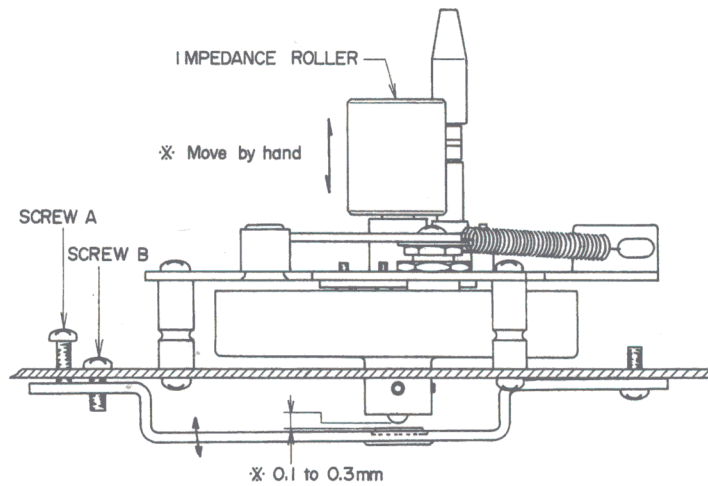

Fig. 7
5. ADJUSTMENT OF IMPEDANCE ROLLER SHAFT LOOSE PLAY (Refer to Fig. 7)